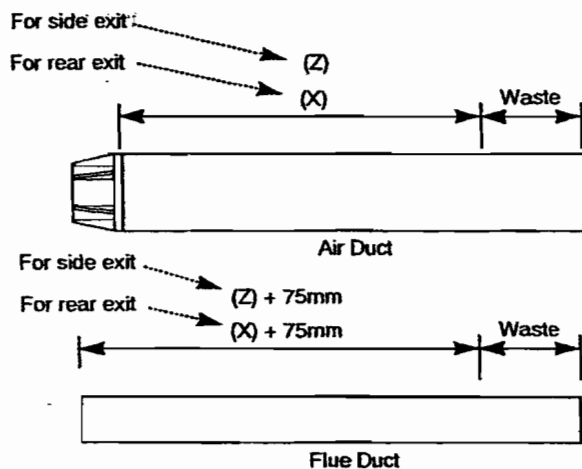

Fig. 24
5. Take the air duct and mark off (X) from the terminal end as indicated in the diagram (Fig. 24) and cut to size.
6. Take the flue duct and add 75mm to the dimension (X) (Fig. 24) and cut to size.
8. Take the air duct and mark off (Z) from the terminal end as indicated in the diagram (Fig. 24) and cut to size.
9. Take the flue duct and add 75mm to the dimension (Z) (Fig. 24) and cut to size.